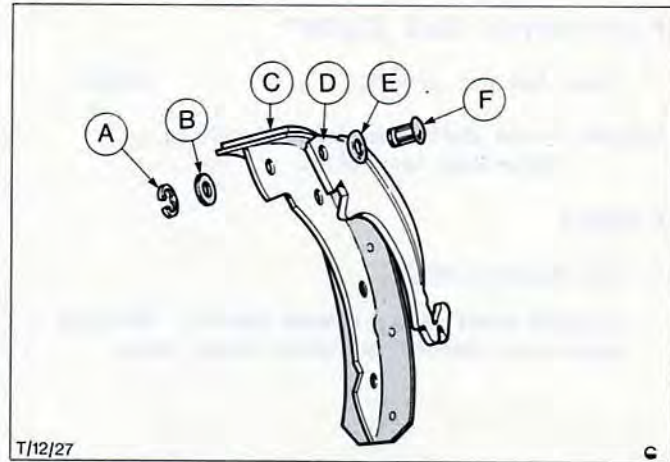

Fig.36. Assemble trailing shoe.
7. Assemble trailing shoe with brake lever and strut, apply a small smear of grease between lever and brake shoe web, Fig.36.